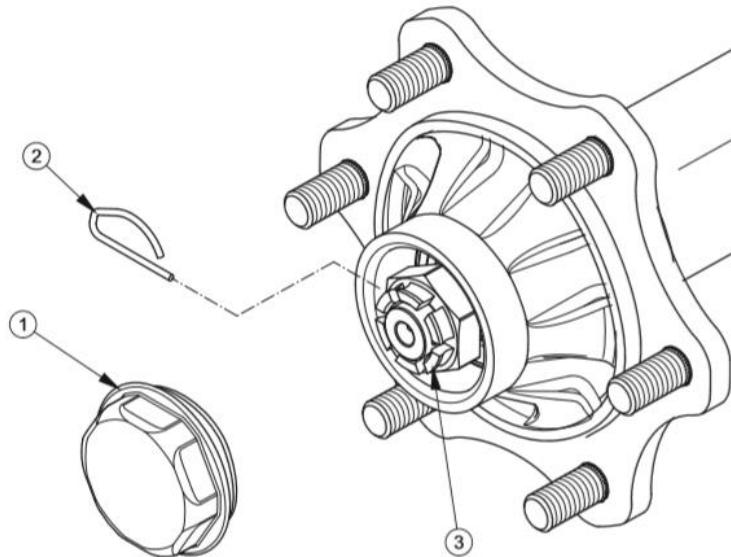

Figure 41 Adjusting the running axle bearings
- Remove the hub cap (1), see Figure 41
- Remove the locking pin (3) which secures the castle nut (2).